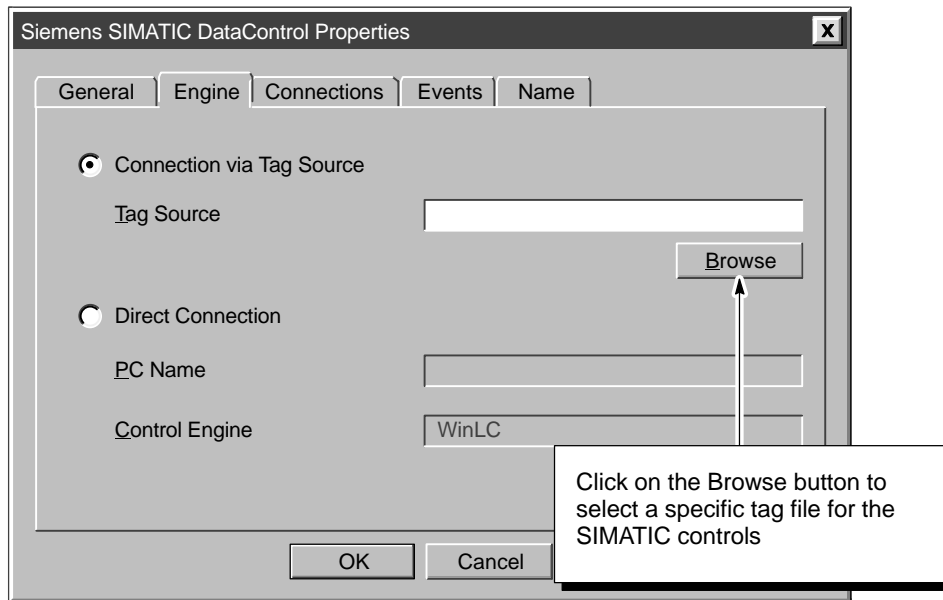

Figure 5-4 Selecting a Tag File for the Data Control
4. As shown in Figure 5-4, click on the “Browse” button and select the valid tag file (*.tsd).